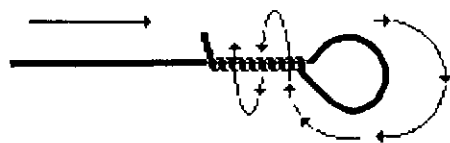

Figure 7-50 Tight-wrap tie using piano wire
1. The tight or close wrapped knot is best when the point of attachment must be concealed. The knot can quickly and easily be made with the help of a wrapping tool (Figure 7-50).